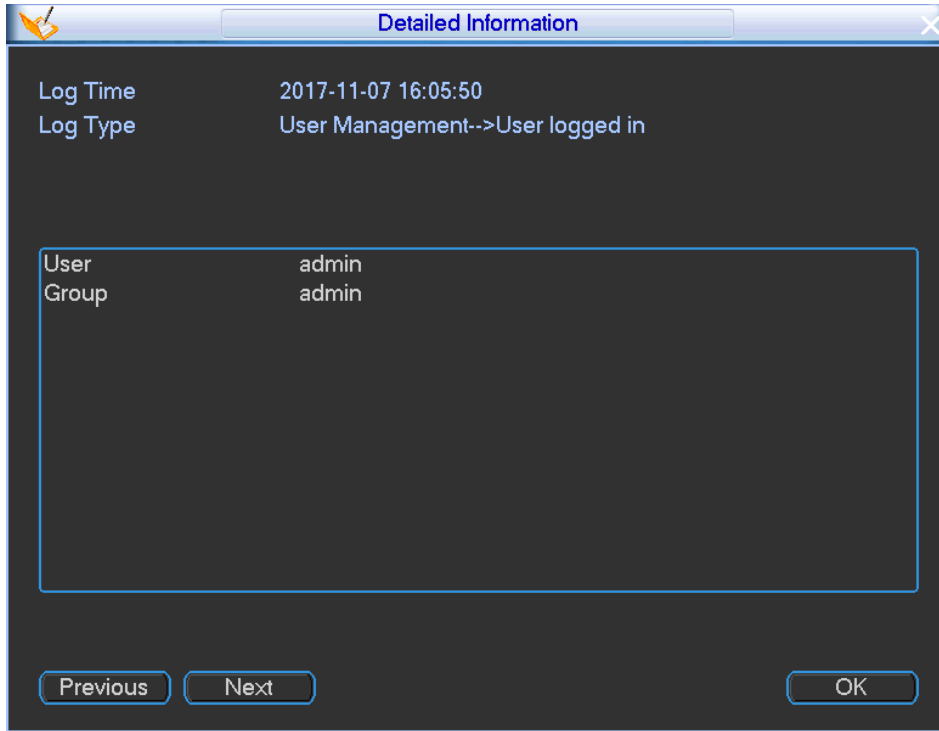

Figure 4-107
- Details: Click the Details button or double click the log item, you can view the detailed information. See Figure 4-107. Here you can use rolling bar to view information, or you can use Page up/Page down to view other log information.